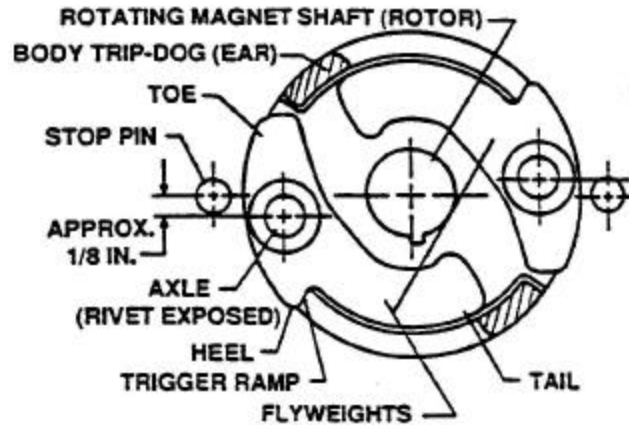

FIGURE 2. FLYWEIGHT TERMINOLOGY AND POSITIONING
- 1.2 Inspect the heel of the flyweight. See Figure 2. A polished area extending from the heel toward the toe of the flyweight is an indicator of severe wear and the cam assembly must be replaced.
- 1.4.1 Rotate the impulse coupling so the flyweight axles are positioned at the stop pins as shown in Figure 2. Lock rotor in place using rotor holding tool. Use of 11-8465 rotor holding tool or equivalent is necessary.